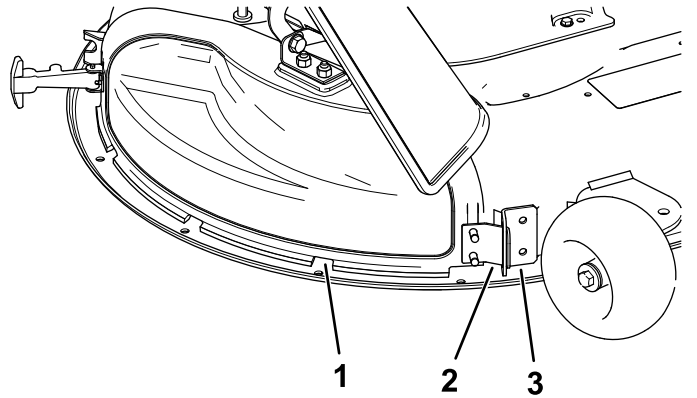

Figure 7
5. Angle the metal tab on the discharge cover out of the slot in the bracket welded to the mower deck (Figure 7).